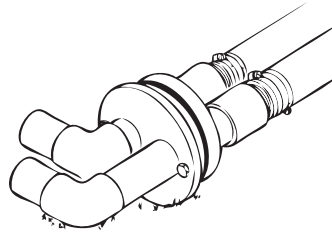

Figure 10
5. Install steel elbows on top end of nipples (see Figure 10). Teflon tape all threaded joints to prevent leaks!